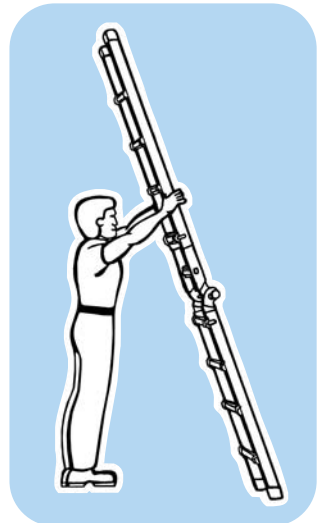

Figure D-1
2. Unlock Lock Tab Assemblies on upper half of the ladder. Grasp the outer ladder, walk backward, allowing the ladder to telescope to the desired height. If more height is desired, extend the lower half of the ladder (see figure D-1).